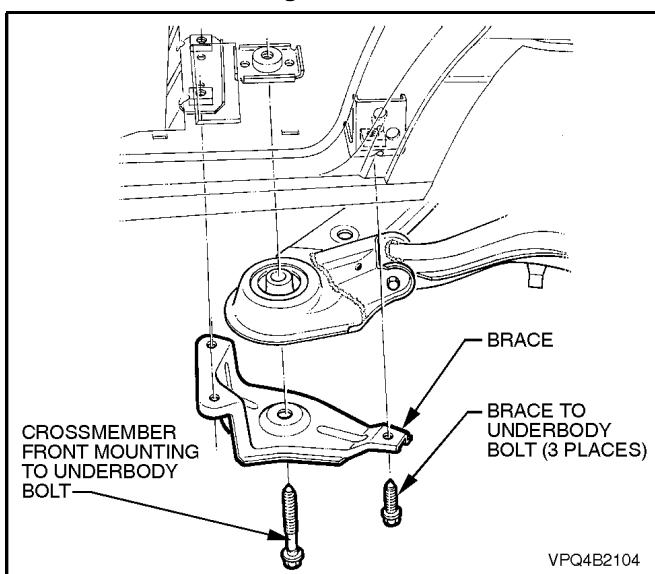

Figure 4B-98
7. Lower rear of assembly to allow access to rear mount-to-rear cover attaching bolts. Tighten NEW attaching bolts to the correct torque specification. At the same time, ensure that the mount does not twist (mount to vehicle underbody mating surface should be parallel to rear crossmember, as shown in Figure 4B-105).